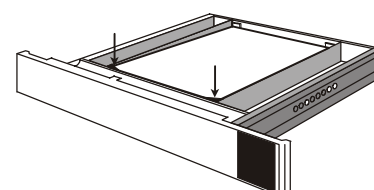

Fig. 14 Correct Paper Loading
- Push down the stack, such that all sheets are under the separation corners (Fig. 14).